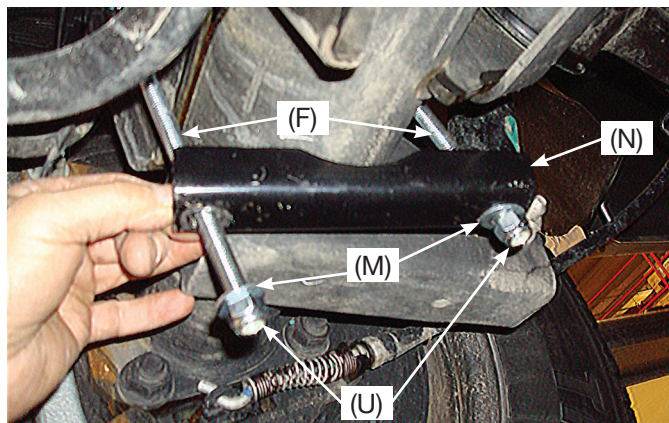

fig. 18
5. Set the clamp bar (N) over the two long carriage bolts (F) under the axle and cap with two 3/8" flat washers (M) and 3/8" nylon lock nuts (U) (Fig. 18).